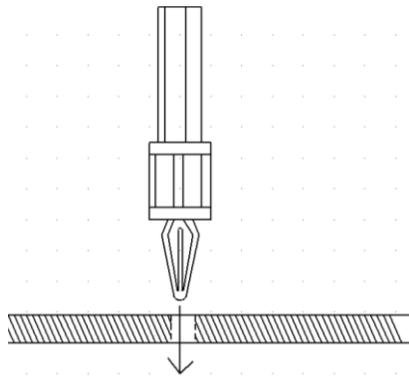

Figure 14 - Standoff Placement
- Remove the template and insert standoffs supplied with boards into the 5 new holes as shown in *Figure 14 - Standoff Placement*